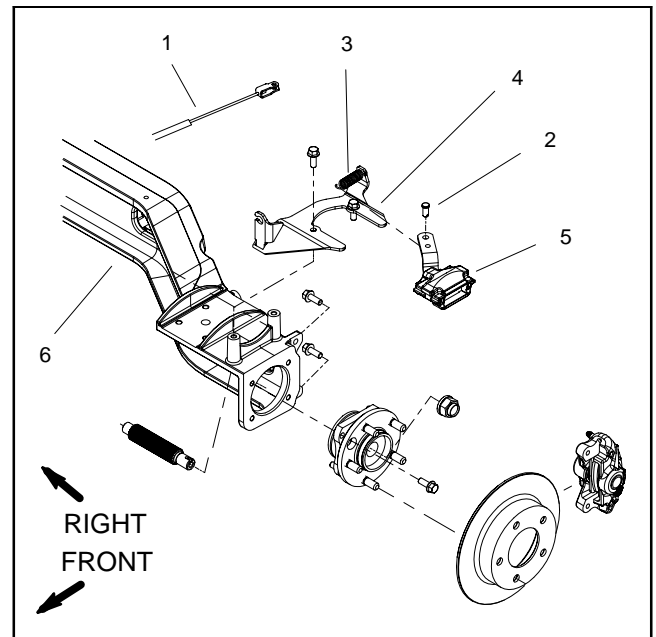

Figure 12
5. Disconnect brake cable from parking brake caliper on rear axle (Fig. 12):
2. Connect brake cable to parking brake caliper on rear axle (Fig. 12).